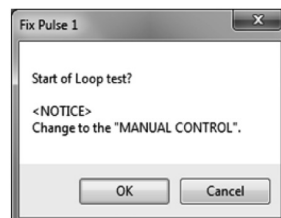

Fig.132
- ④ Click the "Start" button to display a message box (Fig. 132). Click the "OK" button to start "Fix Pulse".